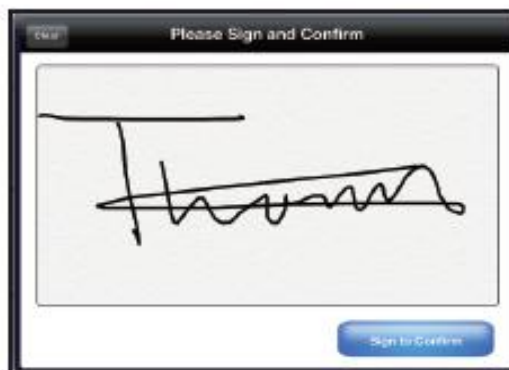

Fig. 5.8 Signature
② Doctor confirm: Sign your name to confirm the diagnosis. The signature is kept for printing and email(See Fig.5.8).